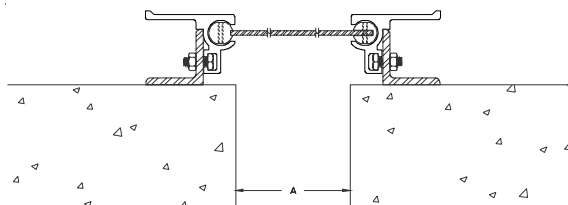

Figure 4
**STEP 7.** Select the base member assemblies and the centering bars. Place the base member assemblies into their installed position. Select one of the centering bars and insert one of its nylon spheres into the channel in one of the base member assemblies. Insert the opposite nylon sphere into the channel in the opposite base member assembly on the other side of the joint (see Figure 4). The centering bars are spaced 20" O.C.